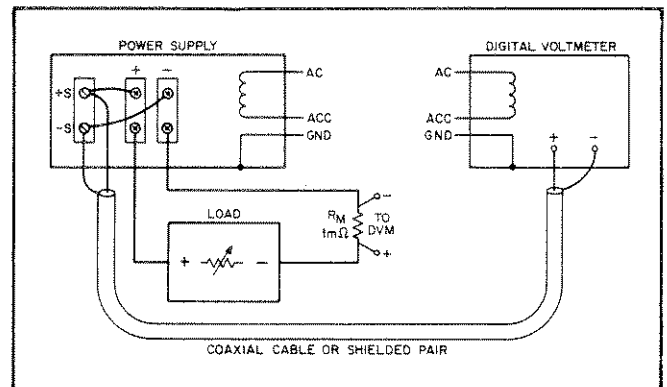

Figure 5-2. Basic Test Setup
- Connect test setup shown in Figure 5-2. Operate the load in constant resistance mode (Amps/Volt) with resistance initially set to maximum.
a. Connect test setup shown in Figure 5-2.
- Connect load and digital voltmeter as illustrated in Figure 5-2.
- a. Connect load and digital voltmeter (DVM) as illustrated in Figure 5-2.